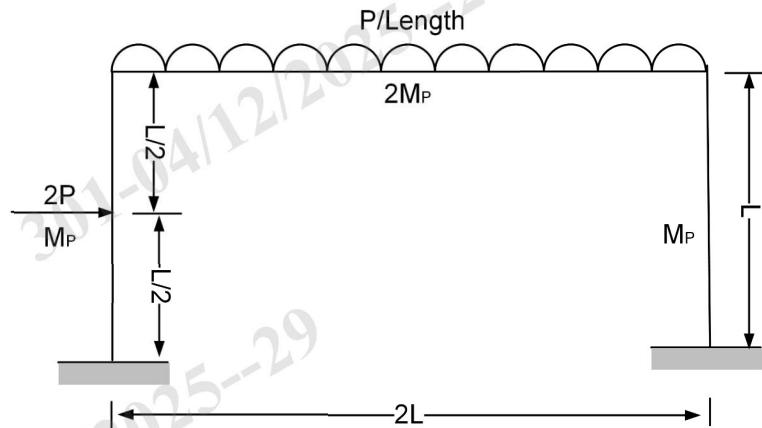

Figure 4
- Q5** Find the collapse load for the portal frame shown in Figure 4. All symbols have their usual meaning. **(16)**